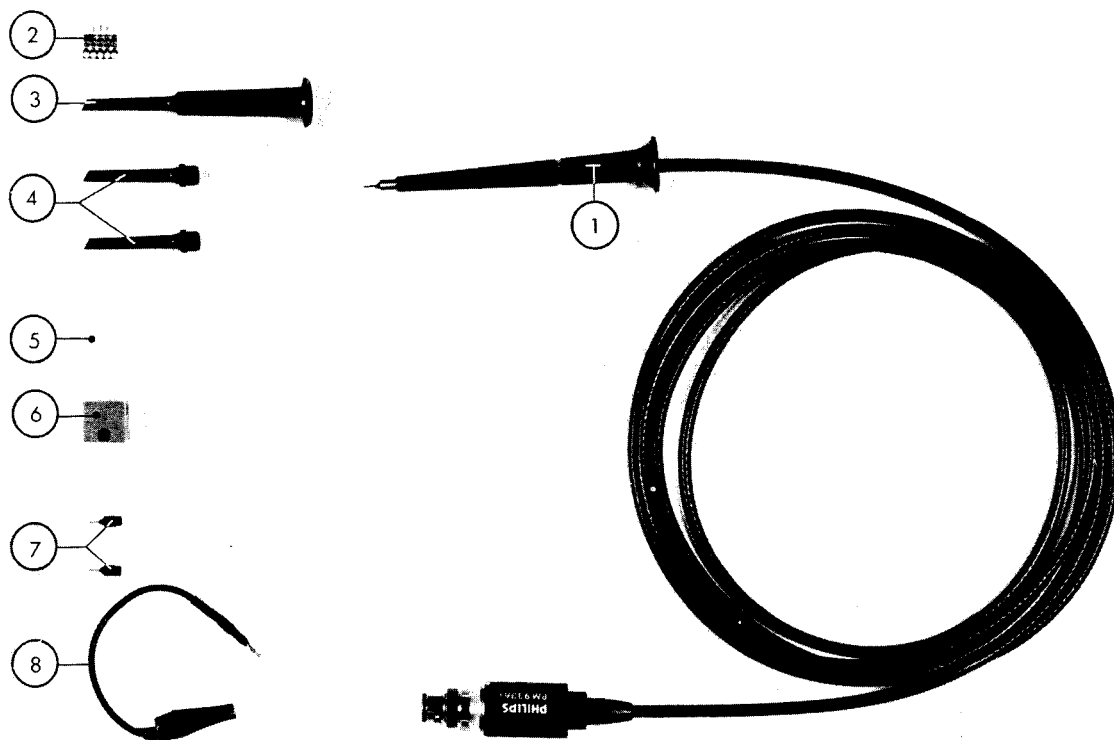

Fig. 20. Attenuator probe set PM 9336 (PM 9336L)
### 3.7.6. Attenuator probe sets PM 9336 and PM 9336L (Fig. 20)
1 probe assembly	Fig. 20, item 1
5 soldering terminals	Fig. 20, item 2
1 test hook	Fig. 20, item 3
2 spare test hook sleeves	Fig. 20, item 4
1 protective cap	Fig. 20, item 5
1 probe holder	Fig. 20, item 6
2 probe tips	Fig. 20, item 7
1 earthing cord	Fig. 20, item 8